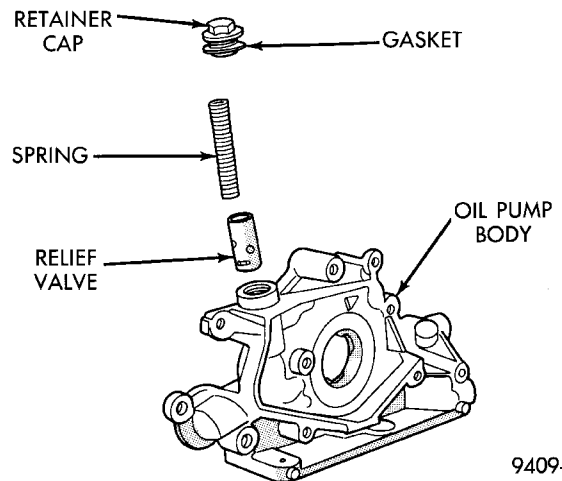

Fig. 89 Oil Pressure Relief Valve
(1) To remove the relief valve, proceed as follows:
(2) Remove the threaded plug and gasket from the oil pump (Fig. 89).
CAUTION: Oil pump pressure relief valve must be installed as shown in (Fig. 89) or serious damage may occur.
(3) Remove spring and relief valve (Fig. 89).